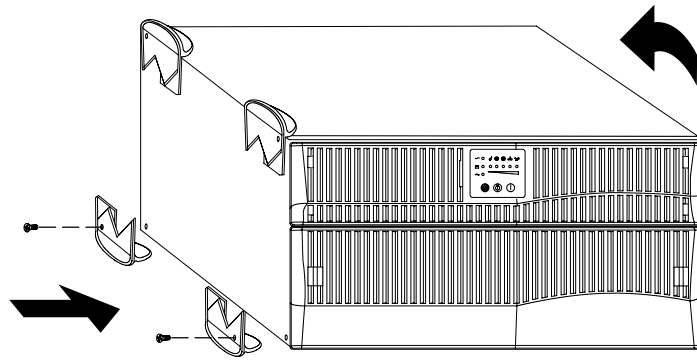

Figure 5. Installing the UPS Pedestals
2. Place the UPS horizontally so that the left end of the cabinet is accessible (see Figure 5).
3. Align the UPS pedestals over the holes on the end of the UPS as shown in Figure 5. Secure the pedestals with the supplied screws.